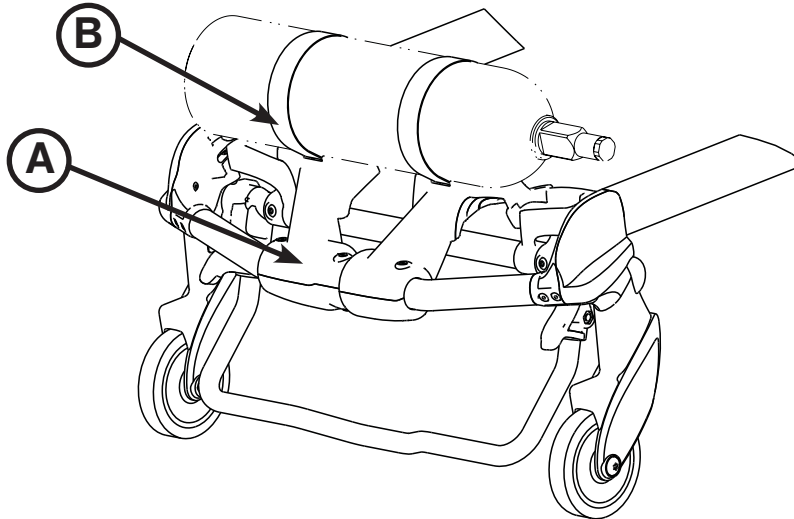

Figure 50: Retractable Head Section Oxygen Bottle Holder
1. Center the oxygen bottle on the cradled surface of item (A) as shown in Figure 50.
2. Tighten both straps (B) around the oxygen bottle.